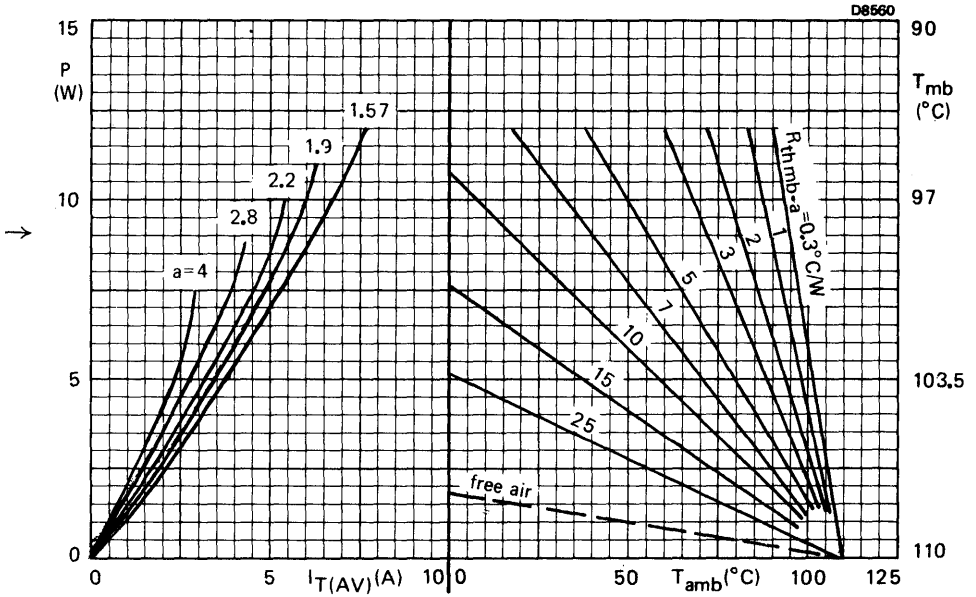

Fig. 4 The right-hand part shows the interrelationship between the power (derived from the left-hand part) and the maximum permissible temperatures.
- b. The method of using Fig. 4 is as follows: